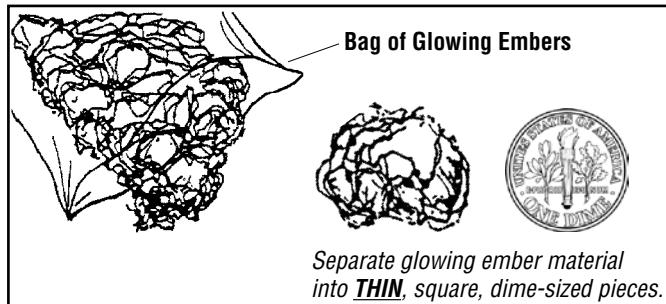

Figure 39 - Preparation of Glowing Ember Material
a) Separate some of the glowing ember material into pieces **about the size and thickness of a dime** (see **Figure 39**). Keep the pieces fluffed up, not matted.